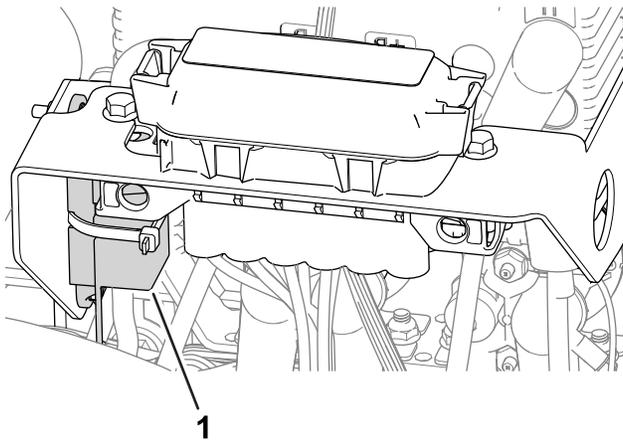

Figure 45
- The fuse for the left wheel motor (60 A) is located under the cover on the left side of the machine, near the reel-drive-circuit fuses (Figure 45).